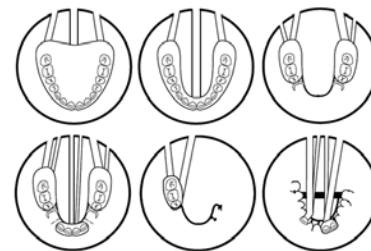

Figure 1. Spruing Techniques
- a. Create or place sprue holes in the hydrocolloid or silicone mold as shown in Figure 1.